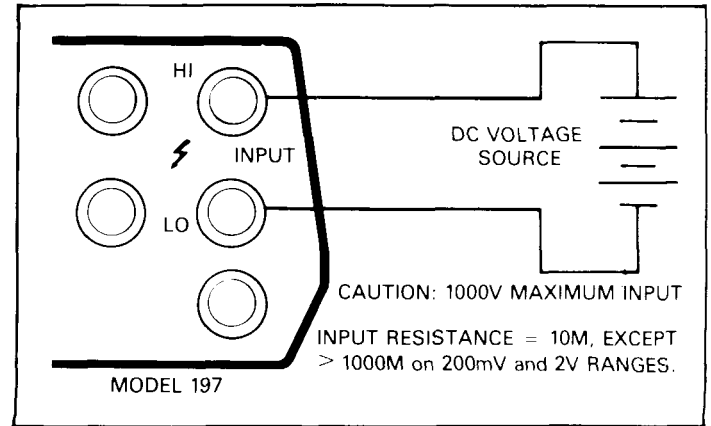

Figure 2-2. DC Voltage Measurements
4. Connect the test leads to the source as shown in Figure 2-2. If the positive source terminal is connected to the LO terminal of the instrument, the display shows a negative value. If the negative source terminal is connected to the LO terminal, the display shows a positive value.